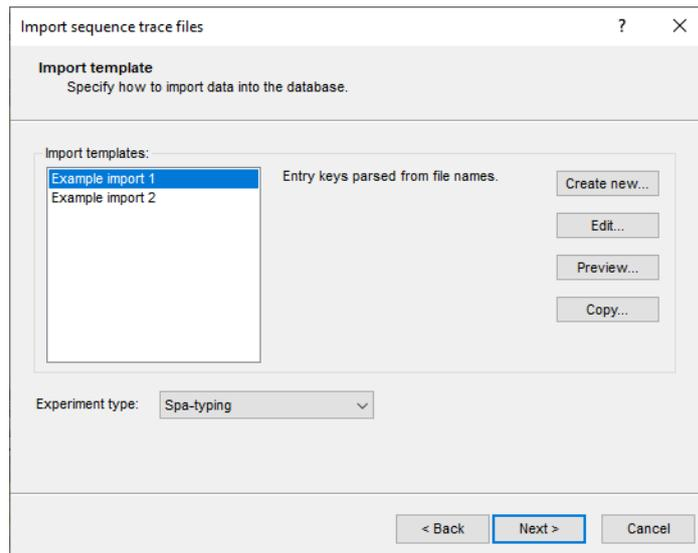

Figure 1: Import sequence trace files.
7. Make sure the **Example import 1** template is selected, and select the **Spa-typing** from the **Experiment type** list (see Figure 1).